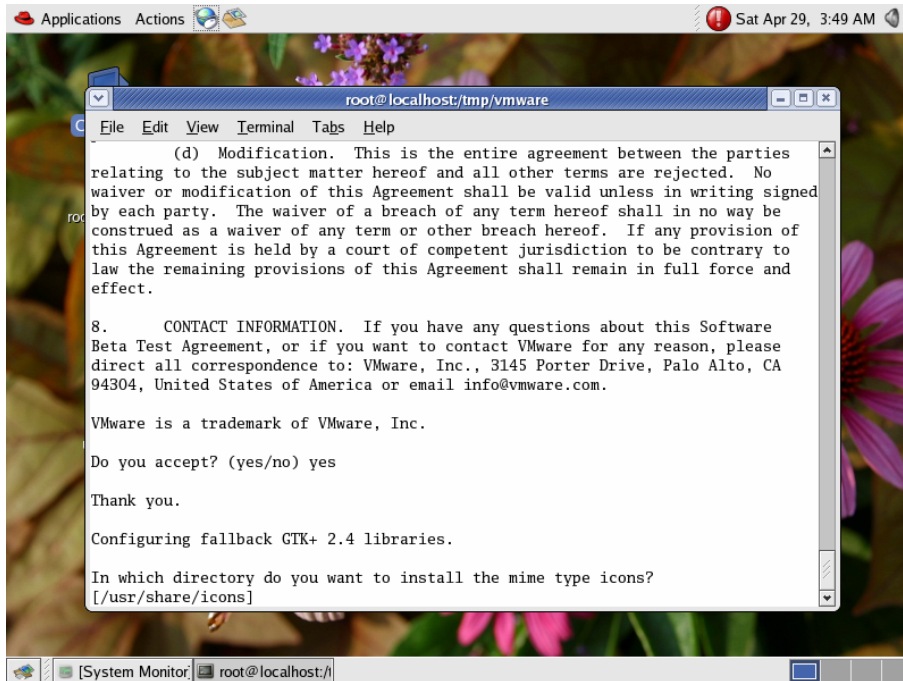

Figure 6-7
10. Press **Enter** to read the End User License agreement (EULA). Read through the agreement by pressing the **Spacebar**, and type **Yes** to accept the agreement (as Figure 6-7 shows).